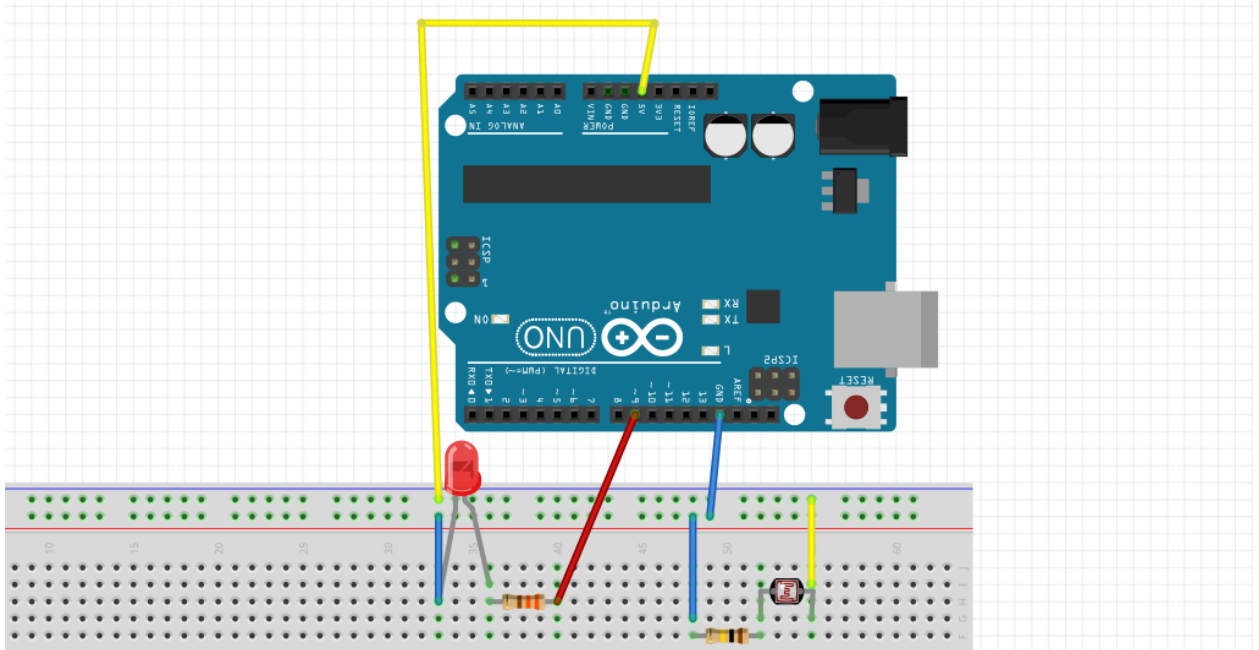

Figure 1.5
4. Next step is connecting the second leg of our LDR to the 5V pin on our Arduino as shown in figure 1.5.